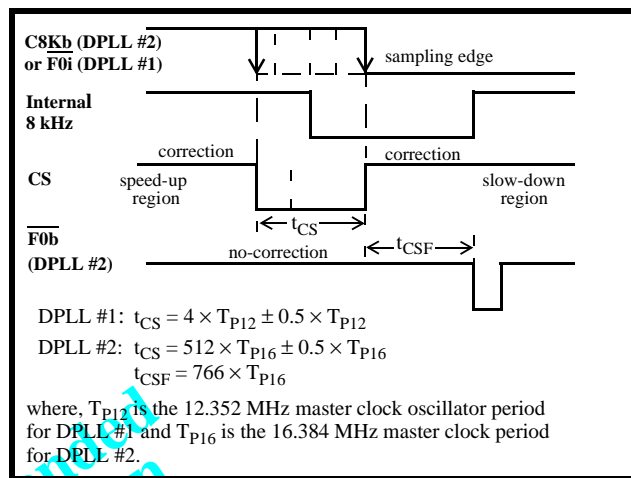

Figure 4 - Phase Comparison
As shown in Figure 4, the falling edge of the 8 kHz input signal (C8Kb for DPLL #2 or F0i for DPLL #1) is used to sample the internally generated 8 kHz clock and the correction signal (CS) once in every frame (125 μs). If the sampled CS is “1”, then the DPLL makes a speed-up or slow-down correction depending upon the sampled value of the internal 8 kHz signal. A sampled “0” or “1” causes the frequency correction circuit to respectively stretch or shrink the master clock by half a period at one instant in the frame. If the sampled CS is “0”, then the DPLL makes no correction on the master clock input. Note that since the internal 8 kHz signal and the CS signal are derived from the master clock, a correction will cause both clocks to stretch or shrink simultaneously by an amount equal to half the period of the master clock.
The no-correction window size is 324 ns for DPLL #1 and 32 μs for DPLL #2. It is possible for the relative phase of the reference signal to swing inside the no-correction window depending on its jitter and the relative drift of the master clock. As a result, the phase relationship between the input signal and the output clocks (and frame pulse in case of DPLL #2) may vary up to a maximum of window size. This situation is illustrated in Figure 4. The maximum phase variation for DPLL #1 is 324 ns and for DPLL #2 it is 32μs. However, this phase difference can be absorbed by the input jitter buffer of Mitel’s T1/CEPT devices.